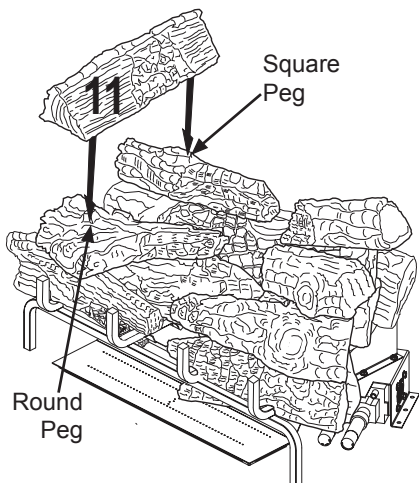

Figure 47 - Installing Log # 11
- Place the left top log (#11) on top of the left back top log (#5) and left top forked log (#6) as shown in Figure 47, page 24. Match the round peg on the top of the left top forked log (#6) with the round hole on the bottom of the top left log (#11) and rectangular peg on the top of the left back top log (#5) with the rectangular hole on the bottom of the top left log (#11).